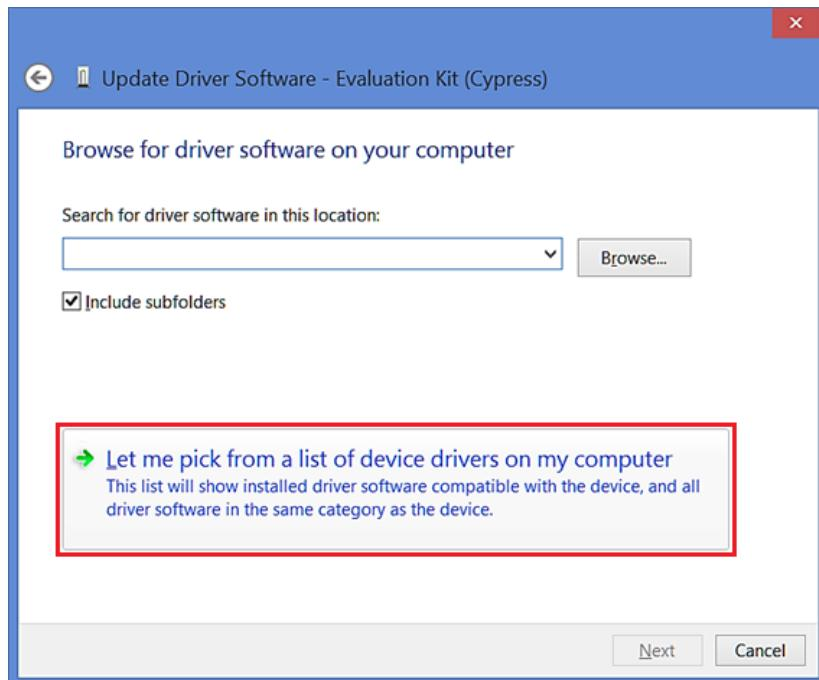

Figure 16: Update Driver Software - 2
5. Select “Let me pick from a list of device drivers on my computer”: (Figure 16)